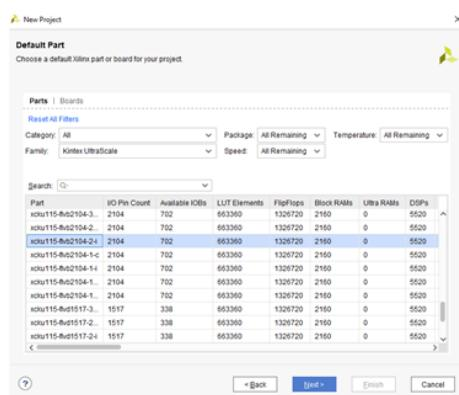

Figure 7: Part Selection
- Choose the relevant Xilinx Part (Figure 7) and click Next: